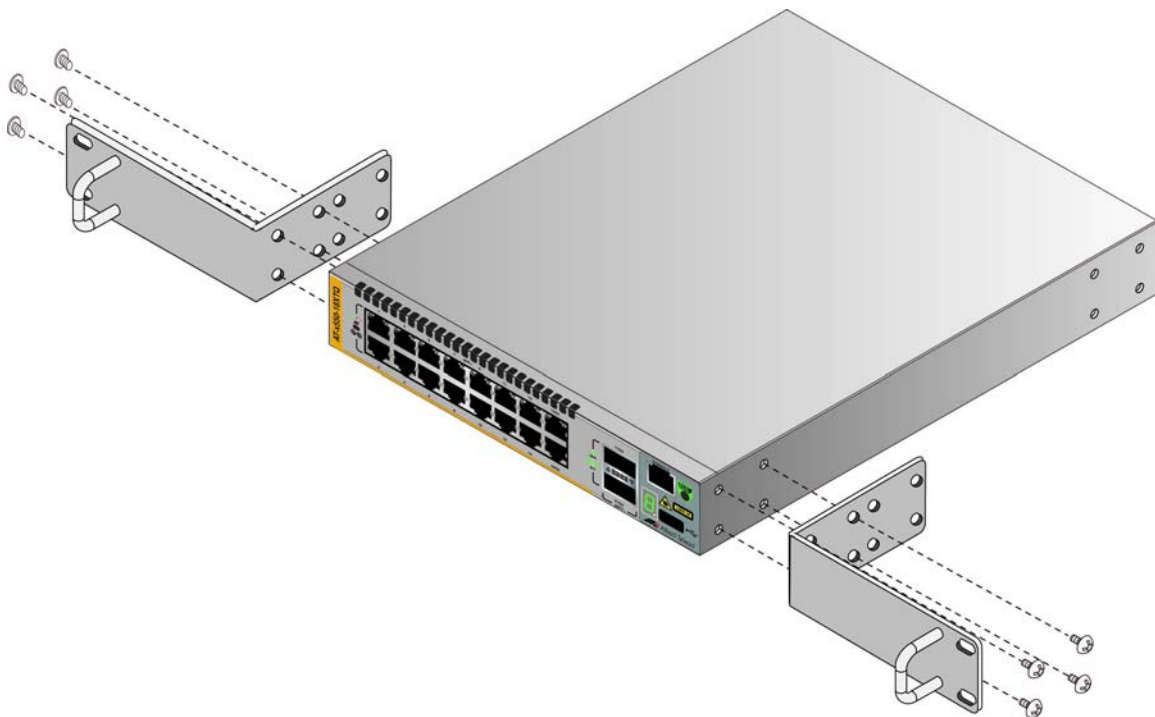

Figure 22. Attaching the AT-RKMT-J14 Brackets to the Switch
3. Attach the two brackets to the sides of the switch in the selected position, using the eight M4x6mm screws included with the unit. The illustration in Figure 22 shows the installation of the brackets such that the front panel of the switch is even with the front of the equipment rack.